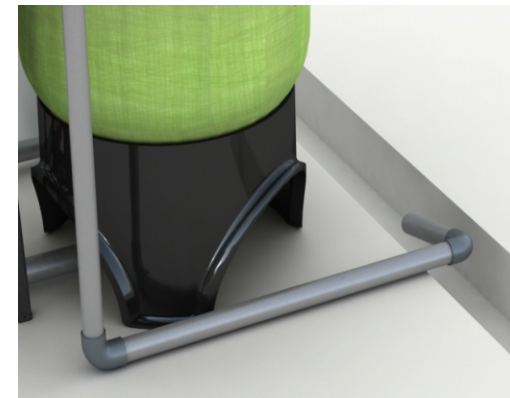

Figure 1-4
- If the valve belongs to time clock type (F111A1, F111B1), there are no step ②.
④ Install drain pipeline (If no special requirement, the standard DLFC is No.7704)
- e. Glue the drain outlet with UPVC (DN40). Put drain outlet pipe to sewer as showed in the Figure 1-4.